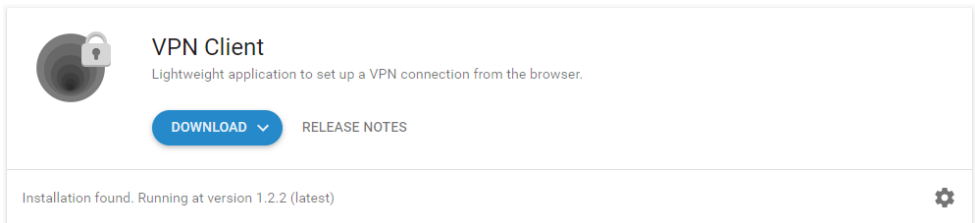

Figure 5.51 The cloud VPN client can be download from the RAP>Tools page.
- a. This can be downloaded from RAP > Tools > "VPN Client" (Figure 5.51).